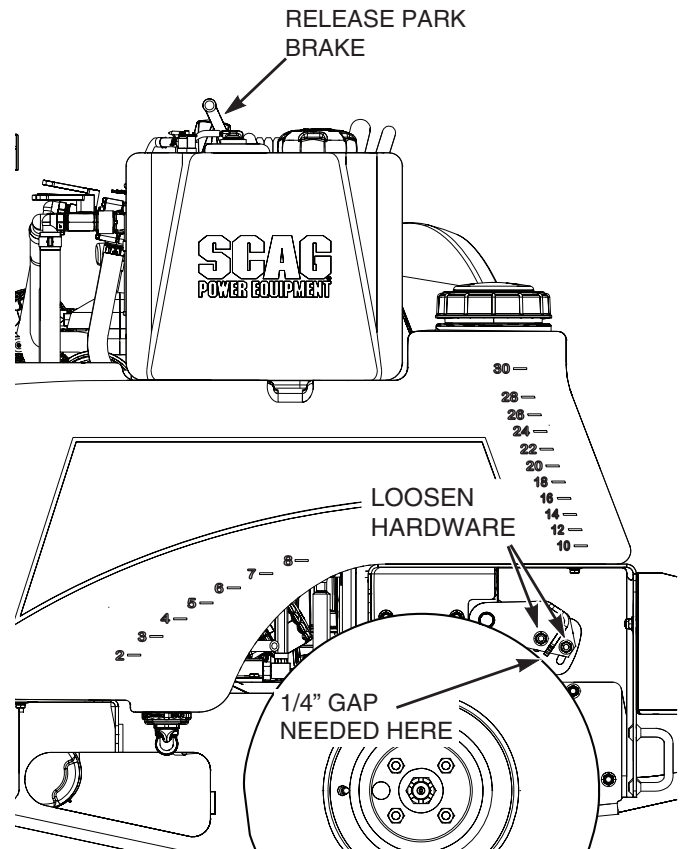

Figure 5-1. Brake Adjustment
3. Look for a gap (approximately 1/4") between the left side drive tire and the brake weldment. See Figure 5-1. Loosen the hardware securing the brake weldment to the brake actuator shaft weldment. Adjust the brake weldment until there is a 1/4" gap between the tire and brake weldment. Tighten the hardware